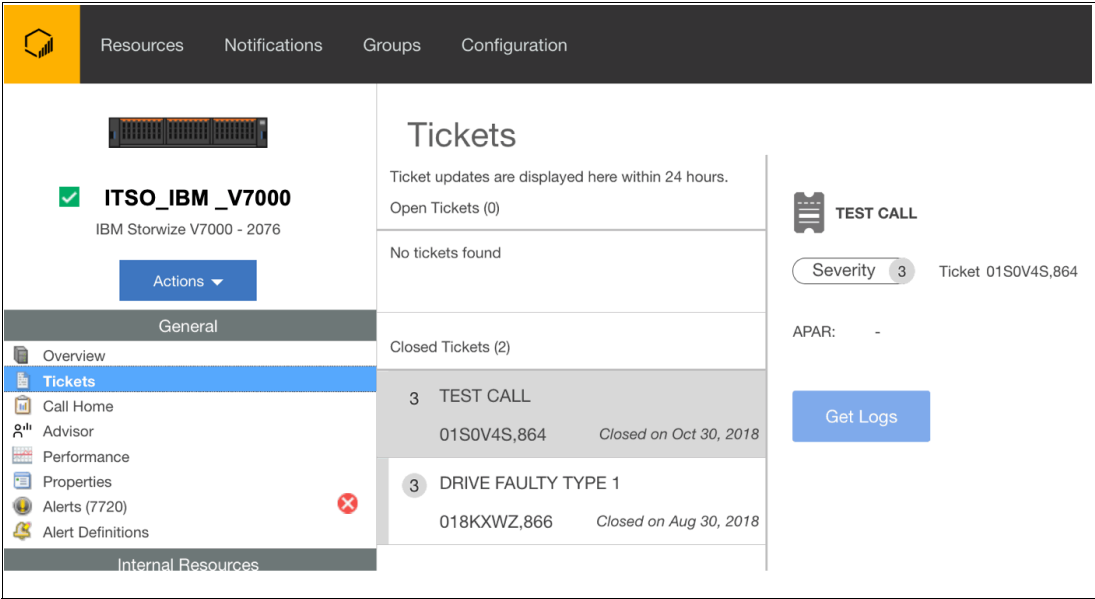

Figure 10-20 Ticket summary
8. Figure 10-20 shows how to view the summary of the open and closed ticket numbers for the system selected, using the **Action** menu option.